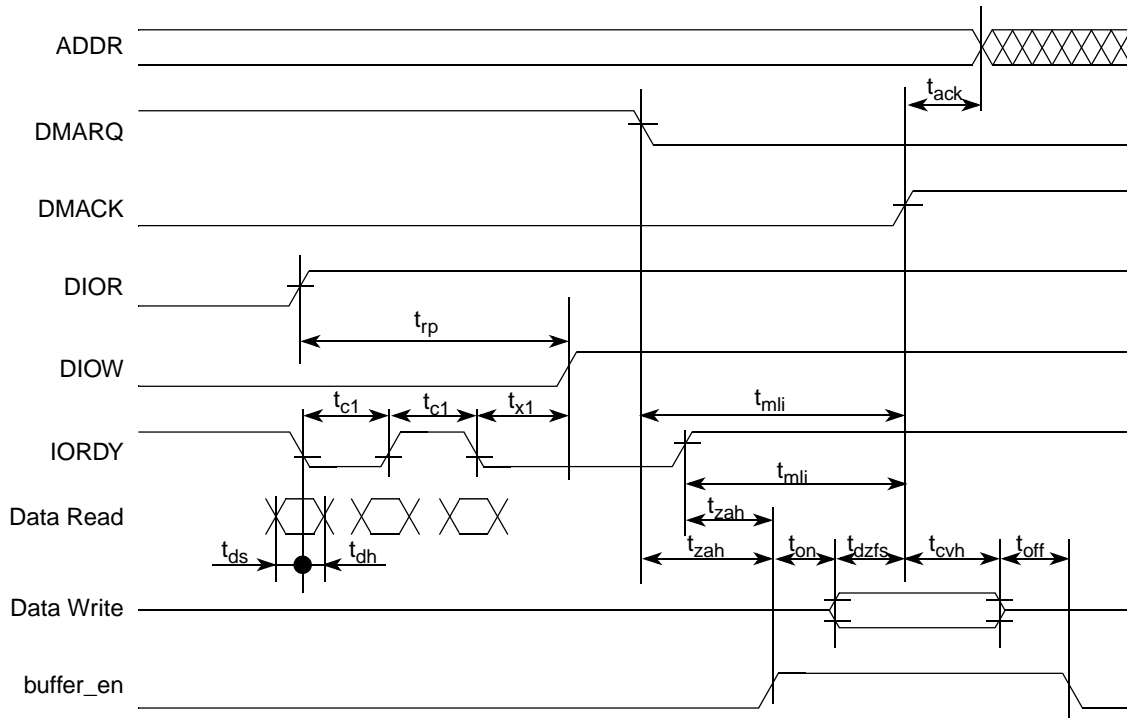

Figure 31. UDMA In Host Terminates Transfer
- Figure 31 gives timing for host terminating UDMA in transfer